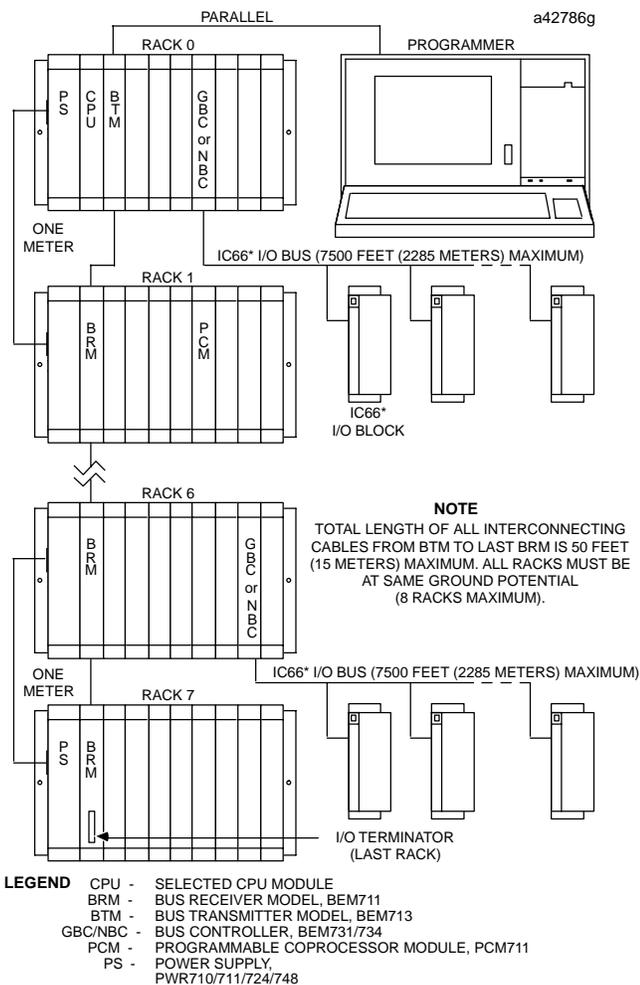

Figure 1. Typical PLC System Diagram
- Install in slot 1 of rack 0. (See Figure 1)
The programmer connects to the top port on the bus transmitter (IC697BEM713) system interface module for a parallel interface (MS-DOS programmer only), see Figure 1. Consult Reference 2 for a description of programming functions.